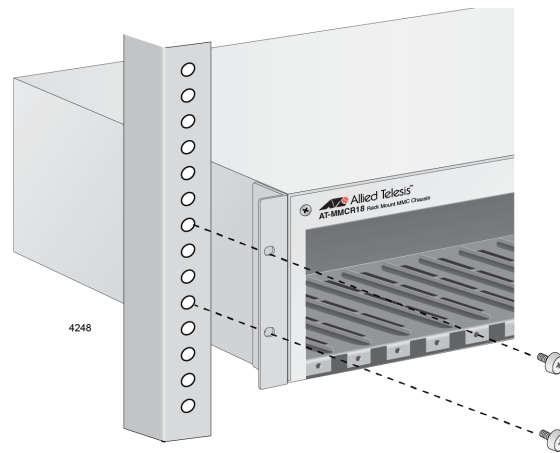

Figure 14. Installing the Chassis in a Rack
3. Mount the chassis on the rack with two screws on each side, as illustrated in Figure 14 on page 27.